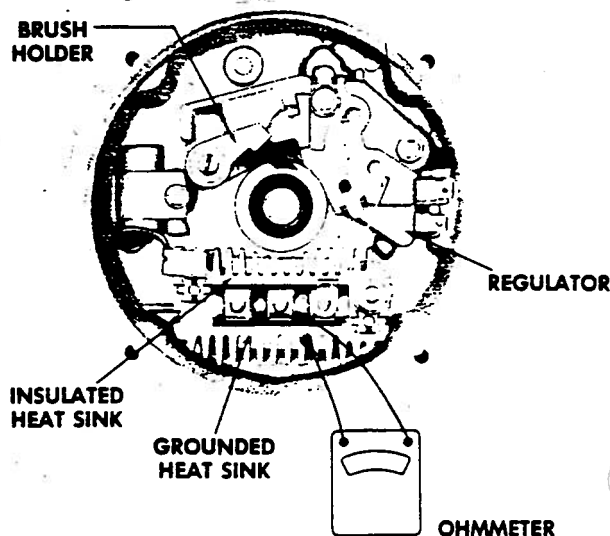

Figure 7-3. Rectifier Bridge Check
1. Connect ohmmeter to grounded heat sink (figure 7-3) and one of three terminals on rectifier bridge.